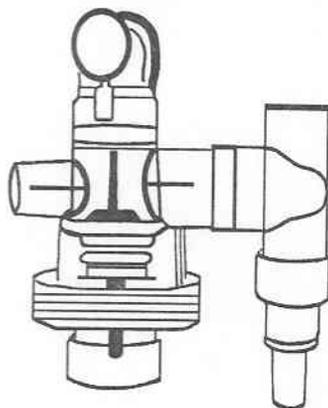

Figure 1-3. Patient valve.
b. *Patient valve (fig 1-3).* This valve provides the interconnection between the control module and a patient.